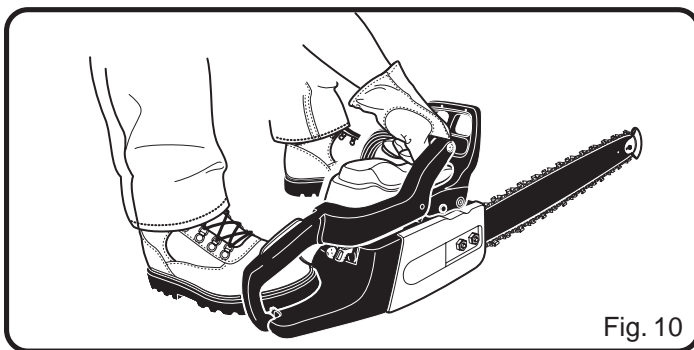

Fig. 10
2. Hold the front handle firmly with the left hand and put your right foot onto the base of the rear handle. See Figure 10.